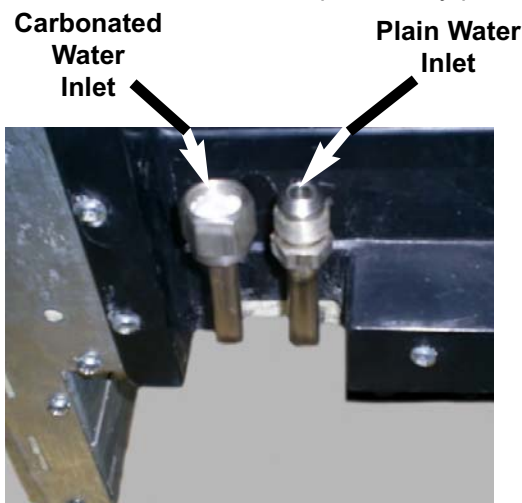

Figure 2
- C. Connect water supply for carbonator/plain water to the 3/8 inch flare fittings at the front of the unit (See Figure 2).